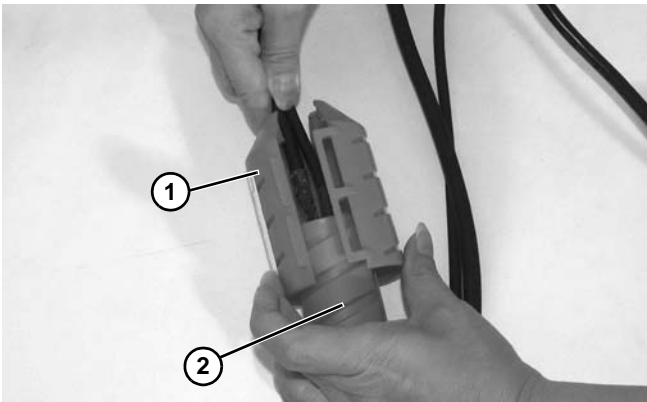

Figure 24
2. Remove outer cord cover (Figure 24, item 1) from inner cord cover (Figure 24, item 2).